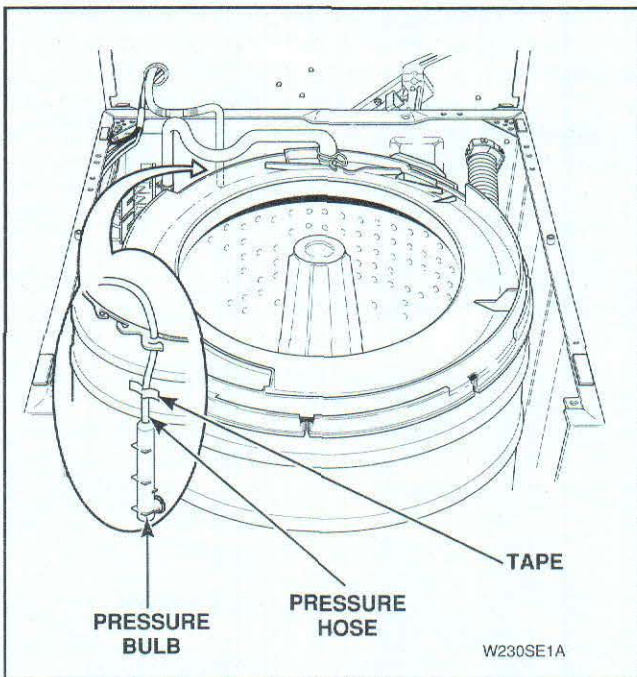

Figure 52
- r. Remove pressure hose from pressure bulb. Then remove tape holding pressure hose to outer tub, *Figure 52*.
- i. Remove pressure hose from pressure bulb. Then remove tape holding pressure hose to outer tub, *Figure 52*.
- Remove pressure hose from pressure bulb. Then remove tape holding pressure hose to outer tub, *Figure 52*.